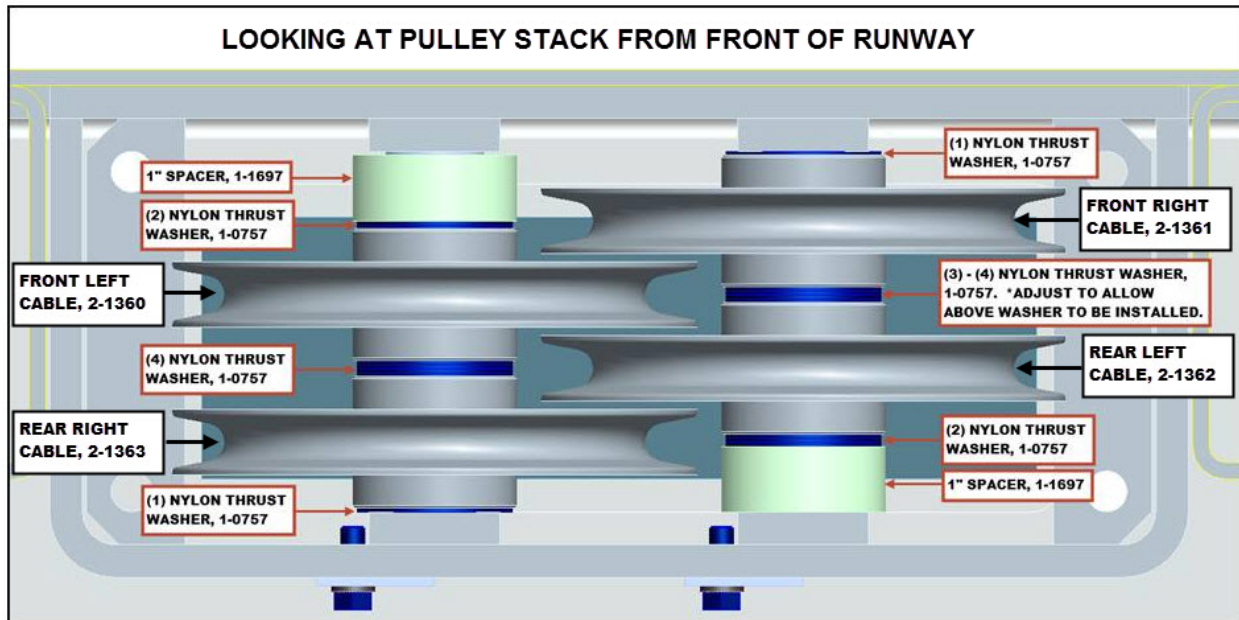
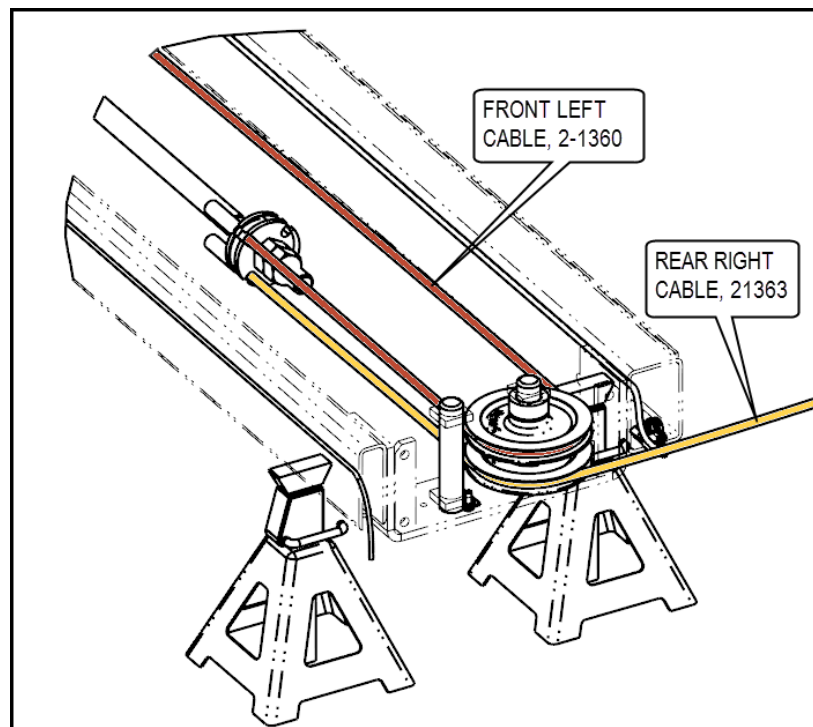
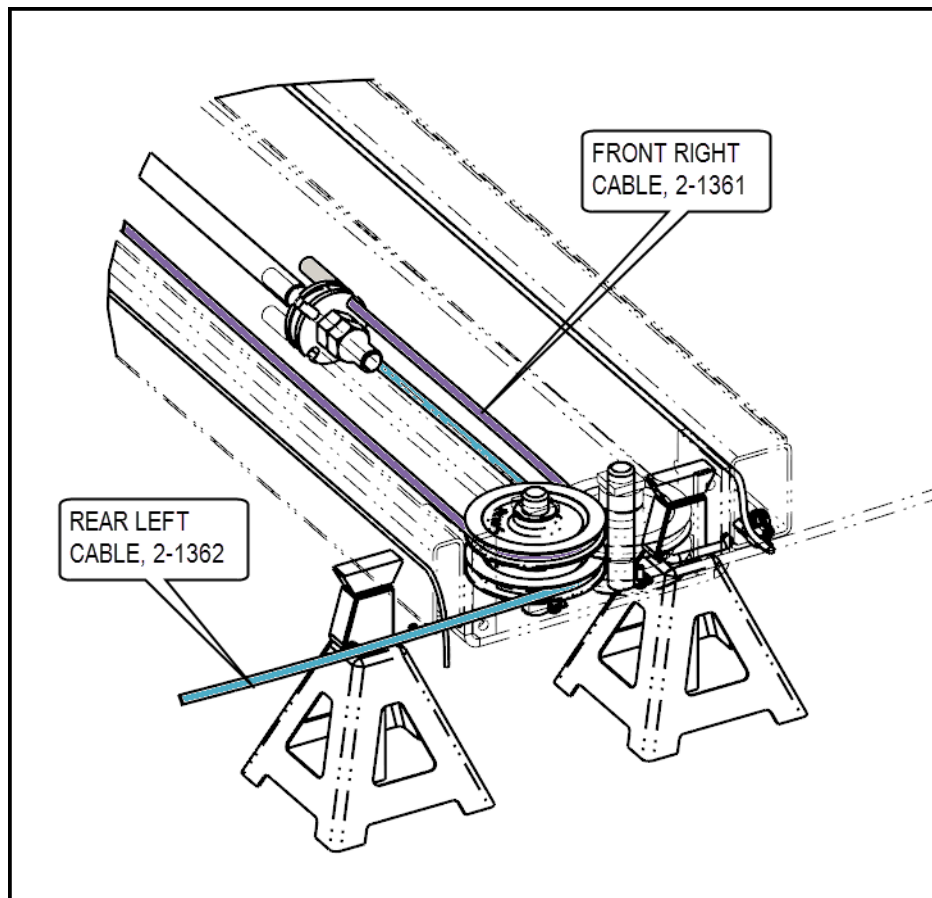

Figure 7. Rear Pulley Stack Assembly
Figure 8. Front Left and Rear Right Cable Installed at Rear
Figure 9. Front Right and Rear Left Cable Installed at Rear
7. Use **Figure 7** as reference during the rear pulley stack and cable assembly. Each cable will enter the pulley stack in the middle of the runway and wrap around the pulley 90 degree (for rear) or 180 degrees (for front).
9. Referring to **Figure 7** and **Figure 8**, assemble the left side of the pulley stack, as shown, with cables 2-1363 & 2-1360 starting from the bottom of the stack and working to the top.
10. Referring to **Figure 7** and **Figure 9**, assemble the right side of the pulley stack, as shown, with cables 2-1362 & 2-1361.